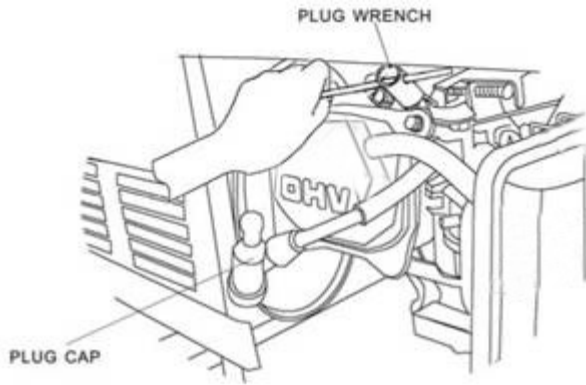

Figure 16 - Removing the Spark Plug
2. Unscrew the spark plug from this generator by using the included spark plug wrench as illustrated in Figure 16.
- Disconnect the spark plug. (See Figure 16, Removing the spark plug.)
| 1 year or more | Empty the fuel tank. (See "Emptying the Fuel Tank" in the "Maintenance/Care" section.) Disconnect the spark plug. (See Figure 16, Removing the spark plug.) |